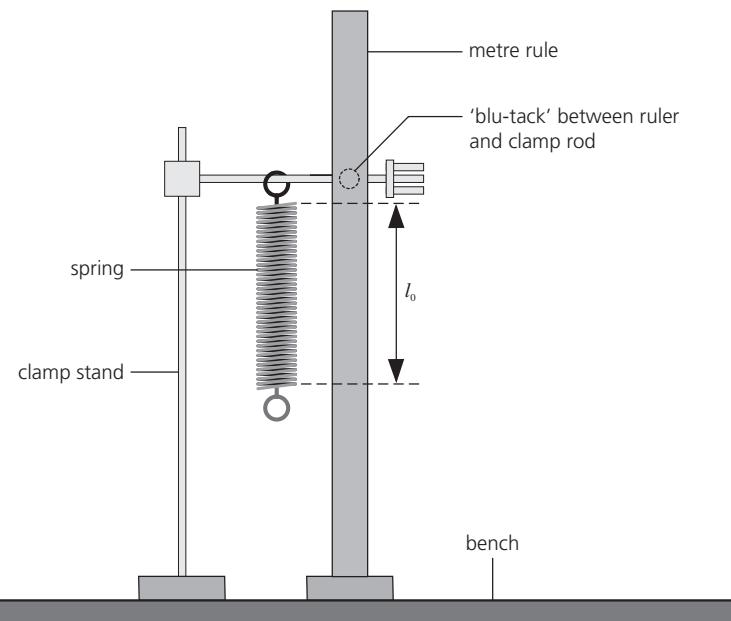

Figure 6
Figure 6 shows the apparatus used.
- a On Figure 6, measure the unstretched length l_0 of the coiled part of the spring, in mm. Record this value of length l in Table 4 for $L = 0.00\text{ N}$. [1]
- b On Figure 6, show how a set-square could be used to take readings in order to determine the length l_0 of the coiled part of the spring. [1]